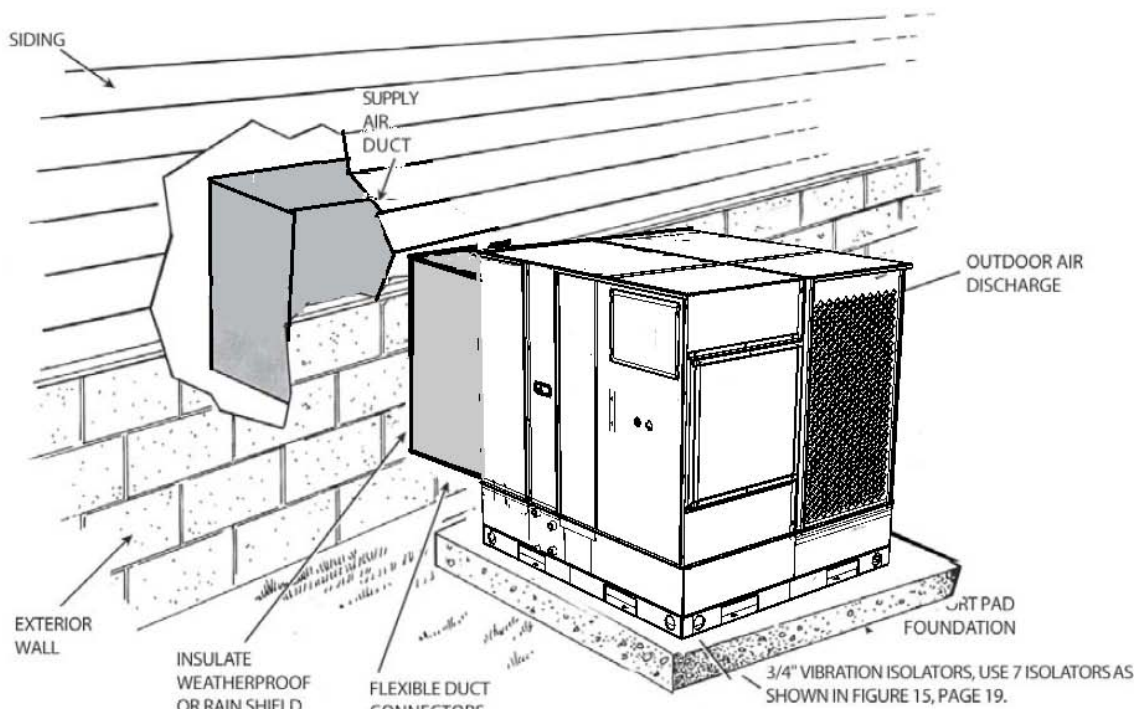

Figure 2. Typical Ground Level Installation
1. Place the unit on a pad the size of the unit or larger. The unit must be mounted level for proper drainage of water through the holes in the base pan. The pad must not come in contact with the structure (see Figure 13.) Be sure the outdoor portion of the supply air ducts are as short as possible. Unit requires vibration support as indicated in Figure 2 below.